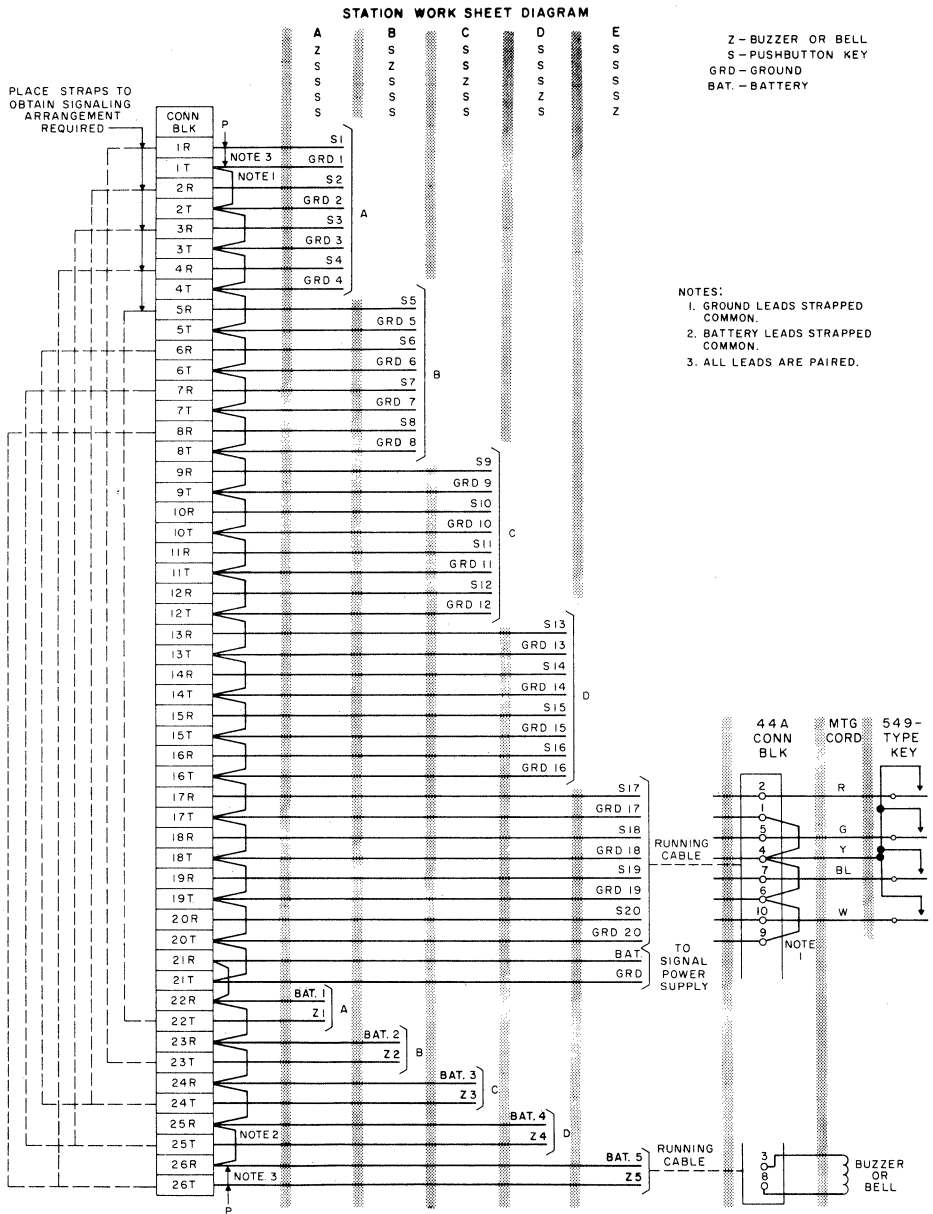

Fig. 21—Large Pushbutton and Buzzer System
- 6.01** A simplified method of connecting buzzers, bells, and pushbutton keys is to be used on all systems. This method ensures the pairing of all key and buzzer leads throughout the system (Fig. 21 and 22).